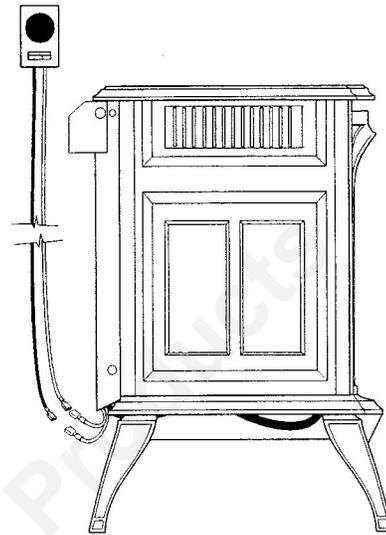

Figure 42. Connect thermostat leads to either terminal.
2. Two leads with 1/4" female connectors extend from the wire harness accessible from under the left rear side of the stove. Either thermostat wire may be connected to either terminal. Fig. 42.